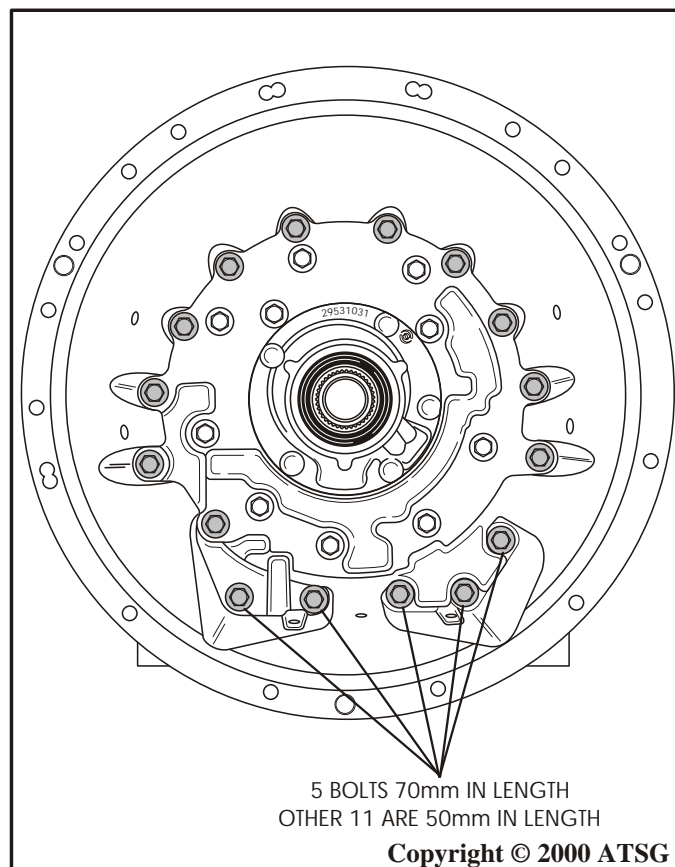

Figure 56
25. Remove the bell housing to case bolts that are shaded, from inside the bell housing, as shown in Figure 56.
Note: Remove the shaded bolts only, as shown in Figure 56. There will be 11 bolts that are 50mm long and 5 bolts that are 70mm long. The remaining bolts retain pump to bell.